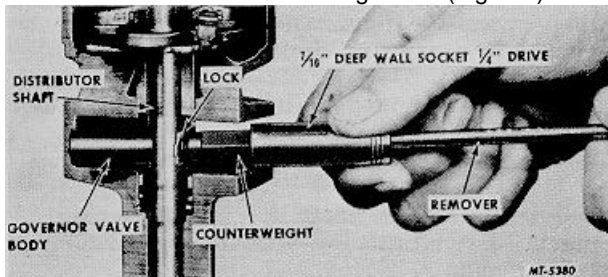

Fig. 29 Governor Valve Removal Using SE-2072-1 Remover (Distributor housing cut away for illustration purposes).
- d. Bend back tabs on counterweight lock (Fig. 29).
- e. Position 7/16" deep wall socket (use socket similar to Snap-On STMD-14) over remover tool SE-2072-1 and insert slotted end onto adjusting screw and socket over hexagon counterweight (Fig. 29).